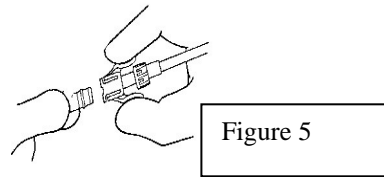

Figure 5
7. With one hand, hold your catheter by the hub and with your other hand squeeze the “wings” of the locking blunt cannula together and insert it into the cap of your catheter (figure 5).